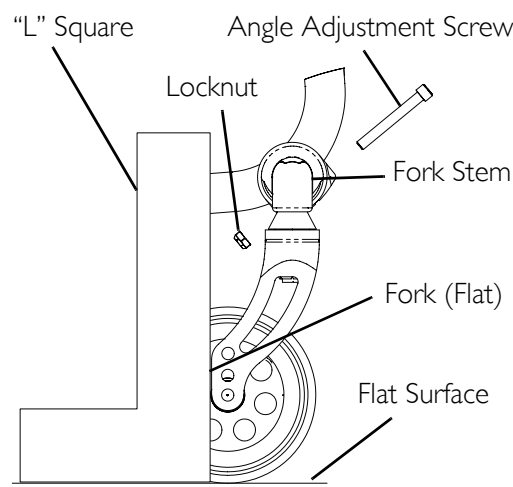

FIGURE 12.6 Checking/Adjusting Fork Stem Angle
NOTE: For this procedure, refer to FIGURE 12.6.
2. Position a large right triangle or "L" square on the flat surface and against the fork. The fork must be aligned to the "L" square (90° to flat surface) (FIGURE 12.6).
3. Tighten/loosen the angle adjustment screw until the indexing mark is aligned with the "L" square (90° to flat surface) (FIGURE 12.6).